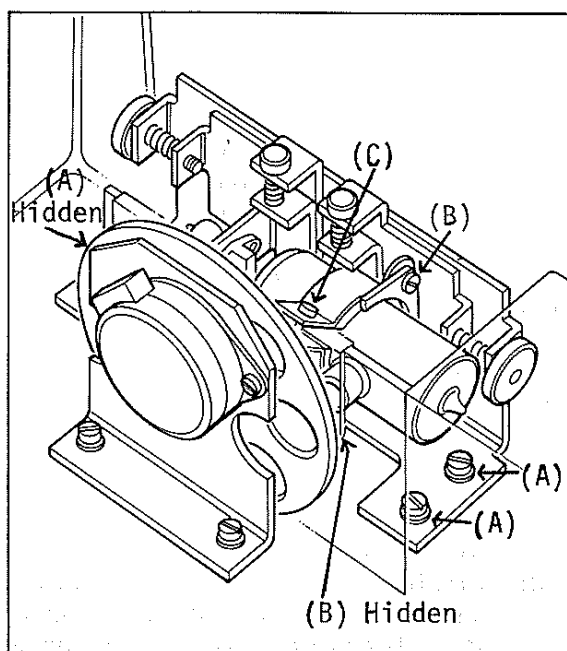
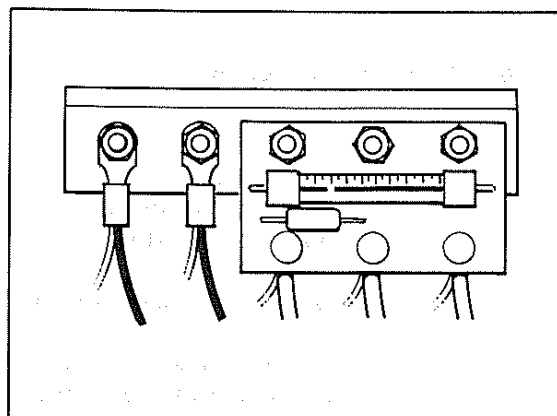

Fig.5.1 Lamp compartment
Fig.5.2 Lamp power supply connections
The  $D_2$  lamp has a life indicator fitted on its power supply connector circuit board (see Fig.5.2). This indicator has a range of 1,000 hours and moves from right to left to show the age of the lamp. If for any reason a reduction of  $D_2$  lamp energy is suspected, the lamp age indicator should be read before a decision is made to either replace it or realign it.
- iv) To remove the D2 lamp from the holder, unscrew the terminal screws on the D2 printed circuit board (Fig.5.2), unscrew the two locating screws (A) (Fig. 5.1) and remove the lamp assembly. Unscrew the two holder screws (B) and clamp screw (C) to release the lamp.
- v) To replace the D2 lamp, place the lamp squarely in the clamp and holder assembly and fit screws (C) and (B). Refit the holder to the frame. Connect the lamp supply leads to the terminal block.